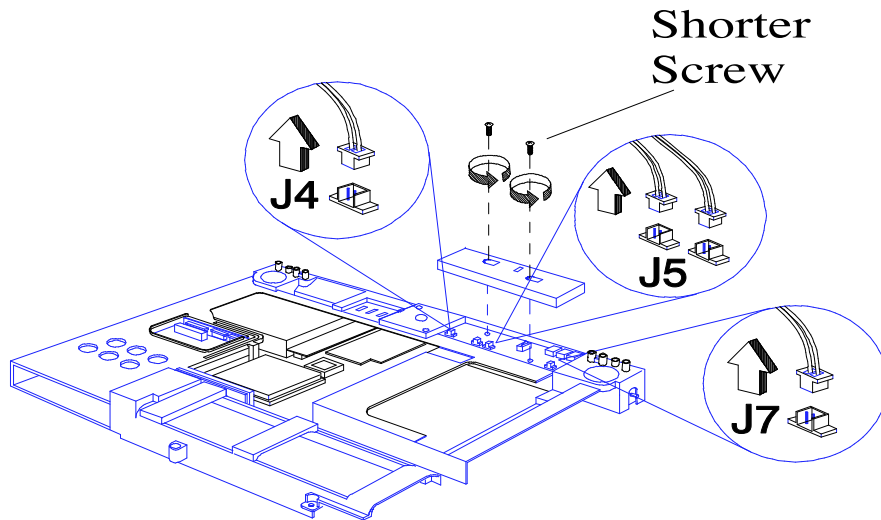

Figure 6-24 Unplugging Cables on Motherboard (65x Series)
- 4.** Remove the two screws that secure the FIR/Audio Board to the Motherboard and remove the cover plate (refer to Figure 6-24).